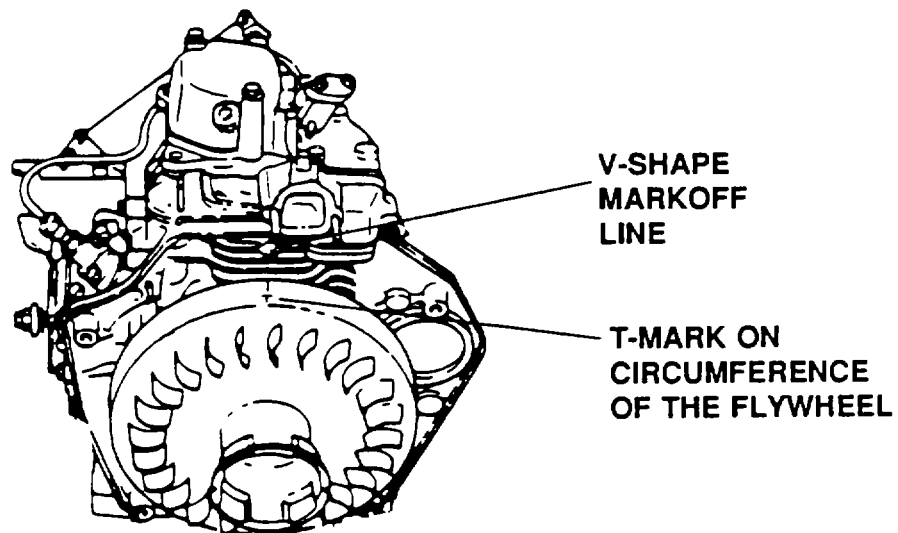

Figure 5-8. Alignment of Flywheel With Cylinder Block.
g. Adjustment. (Refer to Figure 5-8).**NOTE**